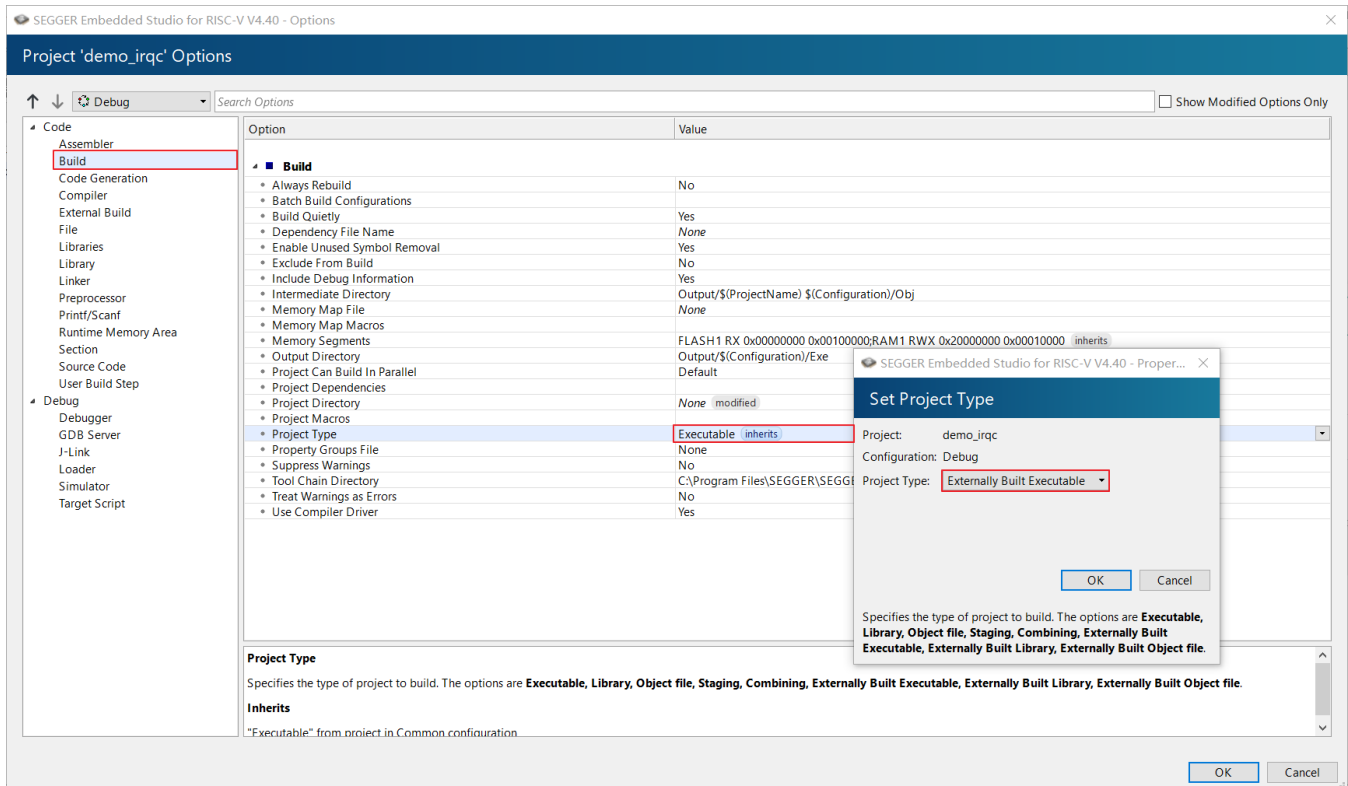

Figure 2-14 Change Project Type
- Modify the “Project Type” to “Externally Built Executable” in the “Build” column, as shown in Figure 2-14. Click the OK button in the pop-up window to save the settings.